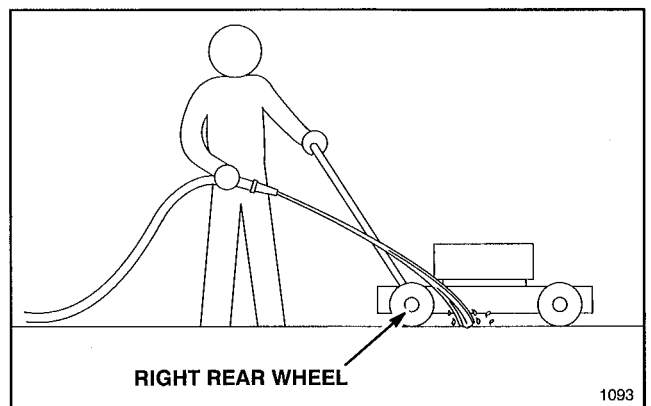

Figure 28
4. Hold the running garden hose at handle level and direct water to flow on ground just in front of right rear tire (Fig. 28). The rotating blade will draw water under the housing and wash out clippings. Let the water run for a few minutes or until you no longer see clippings being washed out from under housing.